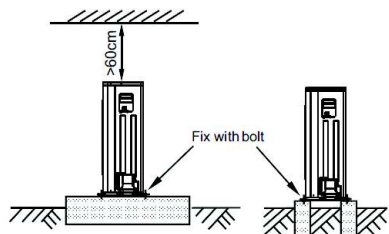

Fig.6-6
- Make concrete foundation according to the sepecifications of the outdoor units.(refer to Fig.6-6)
- Fasten the feet of this unit with bolts firmly to prevent it from collapsing in case of earthquake or strong wind.(refer to Fig.6-6)